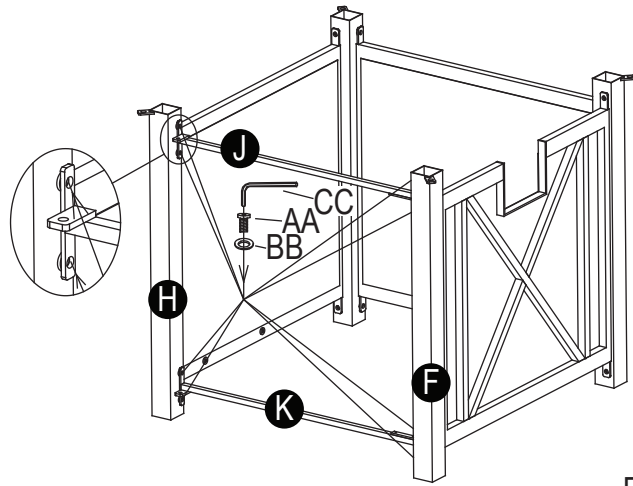

Figure 4
4. Attach the Upper Beam (J) to the Front-Left Leg (H) and the Front-Right leg (F) with Bolt (AA) and Washer (BB) using the Hex Screw Driver (CC). Attach the Bottom Beam (K) to the Front-Left Leg (H) and the Front-Right leg (F) with Bolt (AA) and Washer (BB) using the Hex Screw Driver (CC), (see Figure 4).